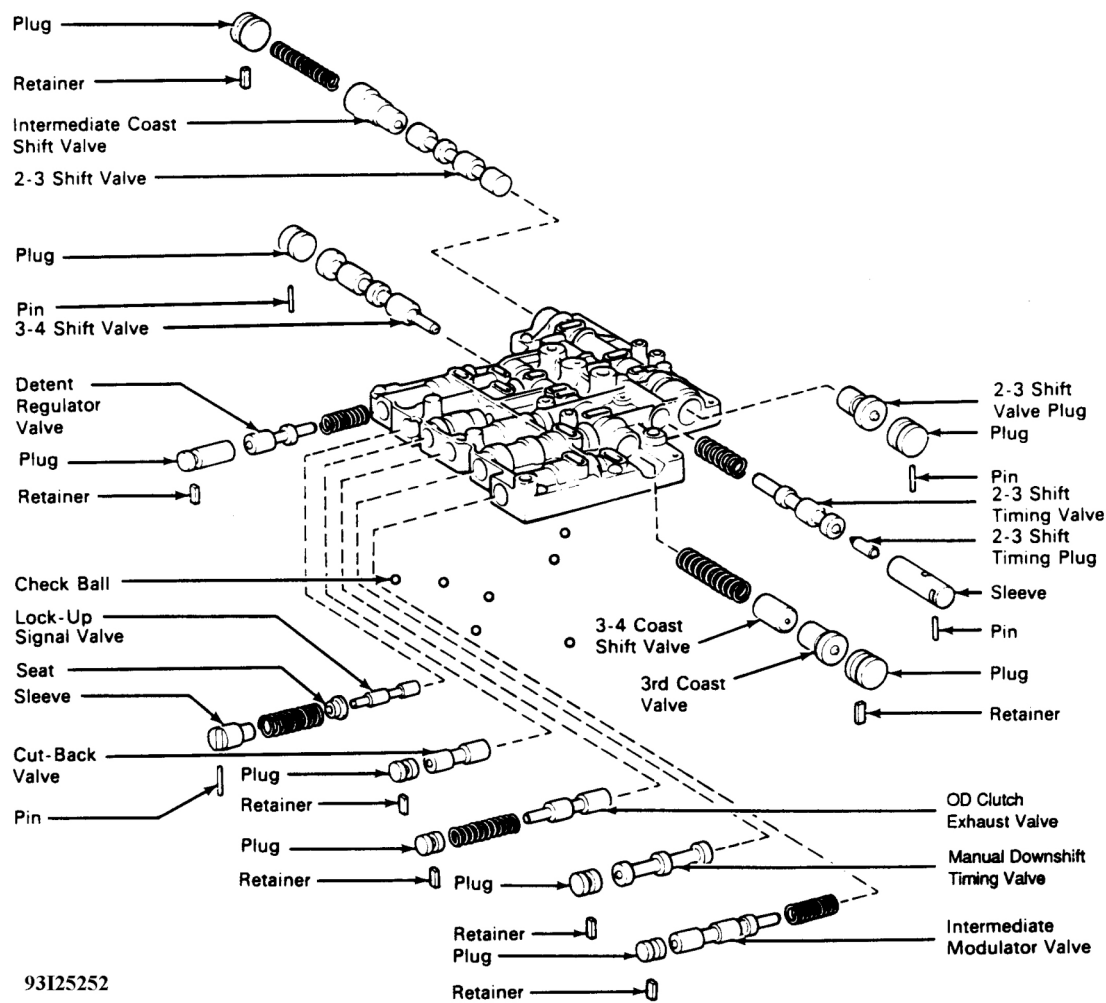

Fig. 39: Exploded View Of Rear Upper Valve Body
remove 2-3 shift pin, plug and 2-3 shift valve plug. See **Fig. 39** .
2. Install 2-3 shift valve and intermediate coast shift valve. Install 2-3 coast shift valve plug in opposite end of bore. See **Fig. 39** .